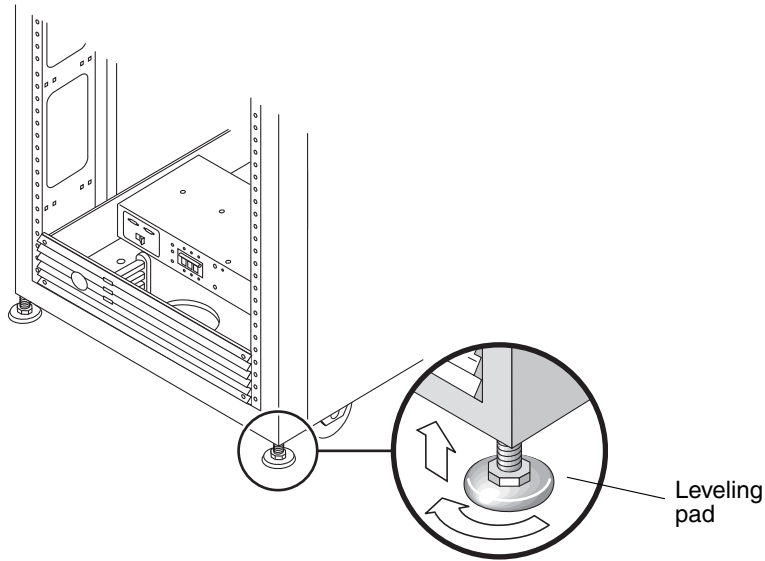

FIGURE 2-2 Leveling Pads
The leveling pads (screws) are located at each corner at the base of the cabinet (FIGURE 2-2).
- 2. Adjust the four leveling pads on the cabinet frame using the leveling wrench (FIGURE 2-2).**